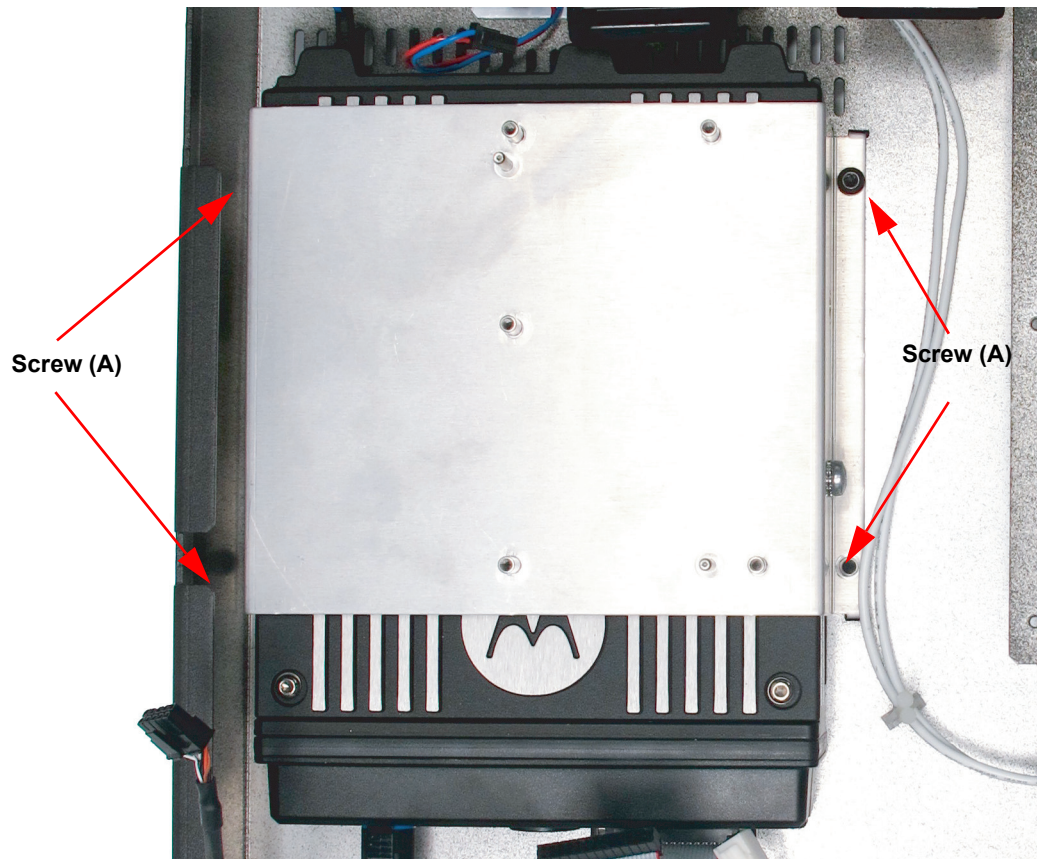

Figure 5-4. Removing and Replacing Mobile Radio
1. Remove the four screws (A) on the mobile radio assembly as shown in Figure 5-4 using a T25 TORX™ driver.
2. Unplug all cables from the Mobile Radio. Access to cables on rear of radio is easier after the four screws(A) are removed.
1. Place radio bracket over replacement mobile radio oriented as shown in Figure 5-4 and install four screws using a T25 TORX™ driver. Place thermal pad on bottom of mobile radio.
5. Install the four screws (A) on the main board assembly as shown in Figure 5-4 using a T25 TORX™ driver with an extension.